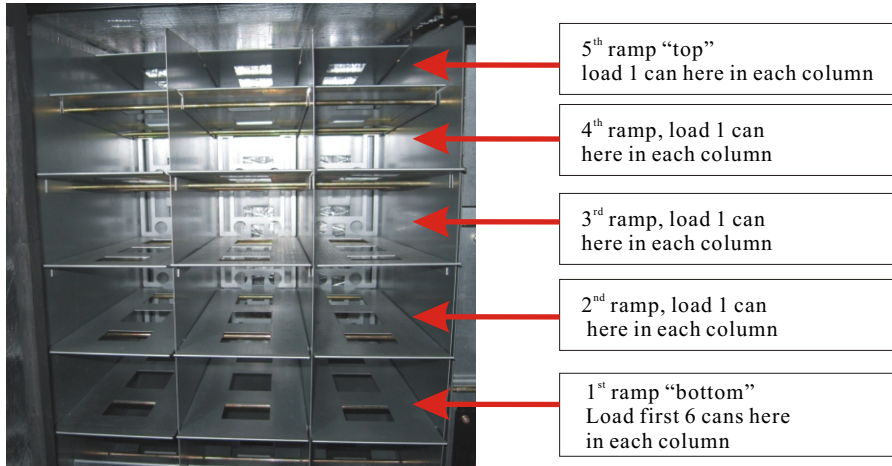

Figure 15 Locations D1 D3 of Beverage section
1. The 12oz cans may be loaded in any either direction (Figure 15).